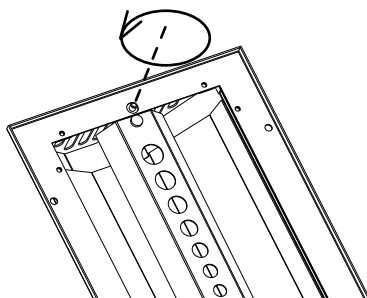

Fig. 8 Removing the screws on the counter-reflector (2x)
2. Remove the two screws (M4 x 55 mm) on the reflector with a Phillips screwdriver. See Figure 8.